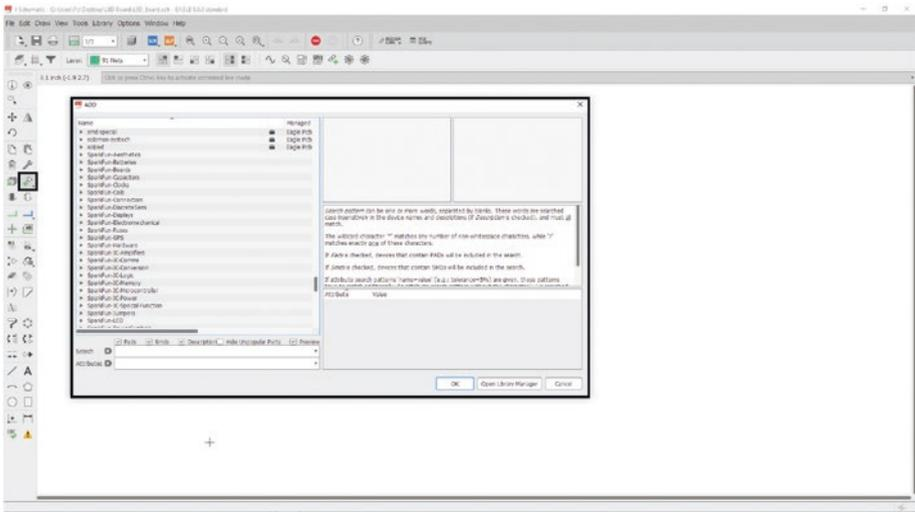

Figure 5-18. ADD window
5. Click the Add Part button, and the ADD window will appear. See Figure 5-18.